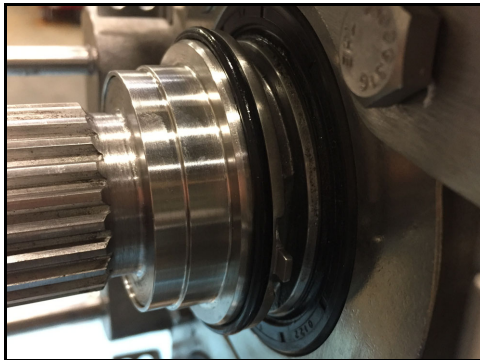

Figure 127 - O-ring installed
21. Figure 127 shows the rotary seal O-ring installed on the shaft.